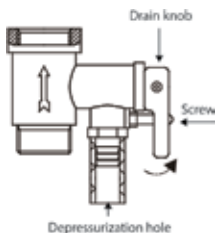

Fig. 11
6. To drain water from the internal tank properly, you need to use the drain hole (only for FSM2/FSQ2 line) (it is necessary to unscrew a plug, covering the drain hole), water can also be drained through a composite relief valve (Fig. 11) (unscrew the composite relief valve drain knob screw and set the drain knob to the upper position, at that hot water tap must be open, and cold water supply valve must be closed).